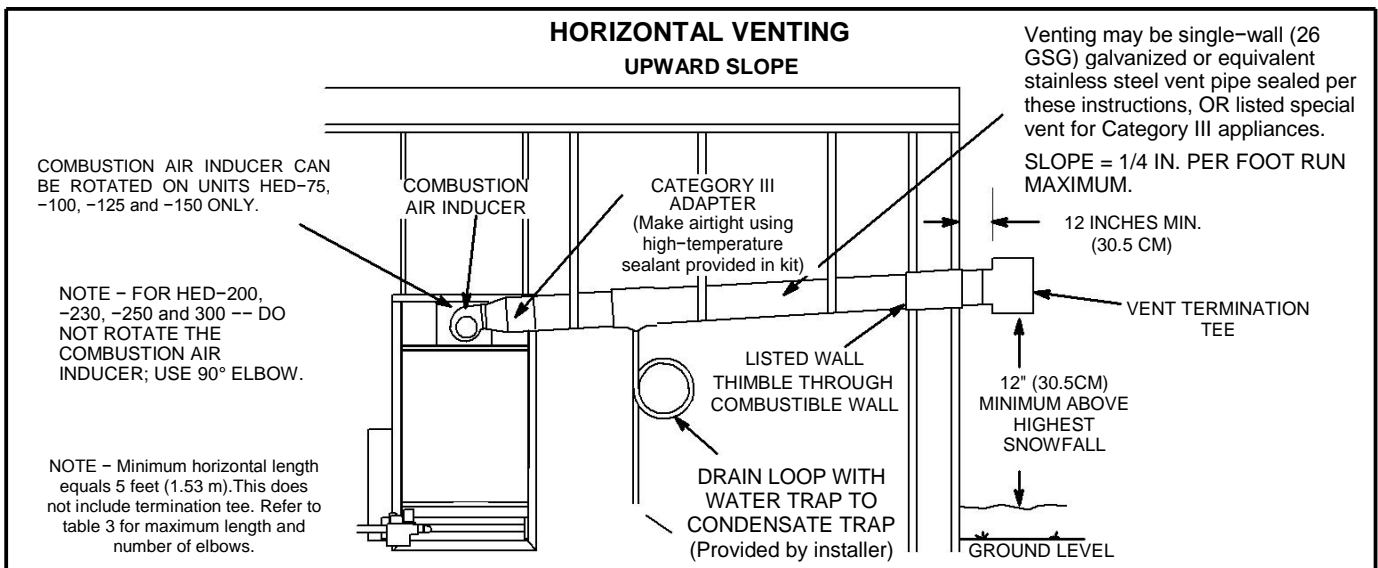
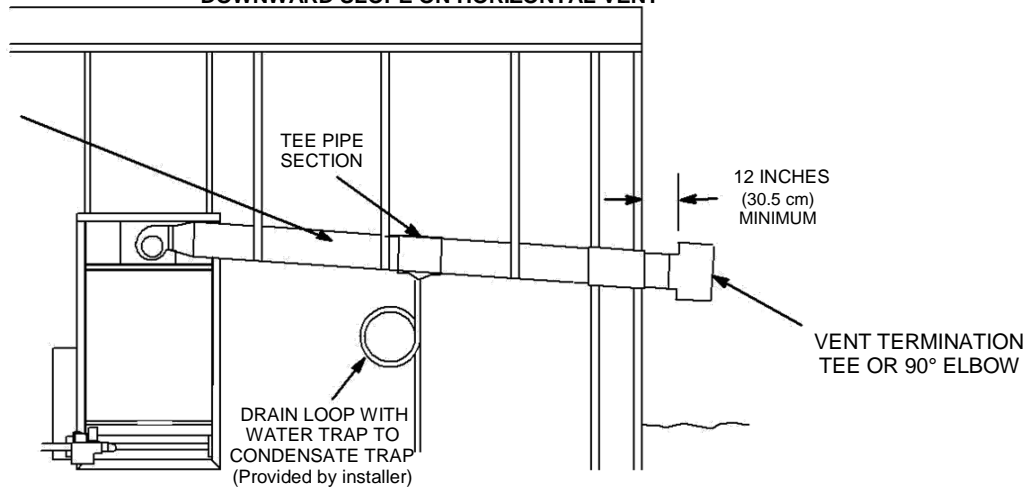

FIGURE 4
FIGURE 5
- 12 - Select a wall termination point that will maintain 1/4" rise per foot slope of horizontal run of vent pipe. In areas where authorities having jurisdiction permit, a downward slope of maximum 1/4" per foot is also acceptable. Condensate drainage can be collected in a tee pipe section (figure 4) with drain loop similar to one used for upward slope vent, or allowed to drip through the vent termination, if permitted by authorities (Fig 5).